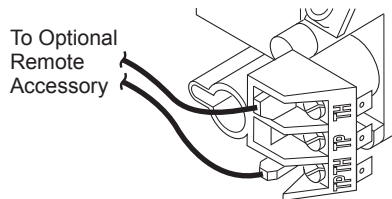

Figure 39 - Control Valve Terminals
5. Connect wires from receiver to TH and TPTH to control valve (see Figure 39).